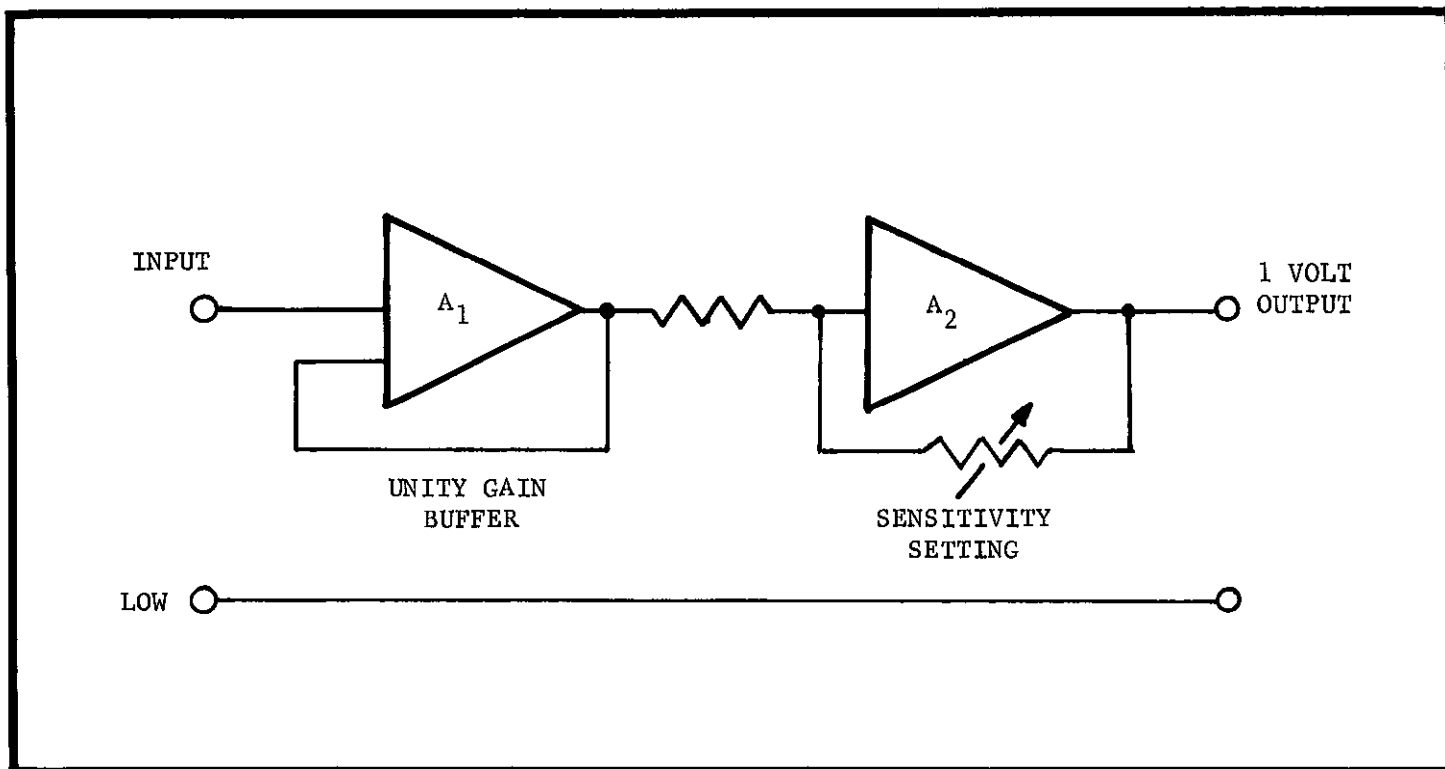

FIGURE 24. Simplified Diagram of Amplifier Section.
a. **Input Amplifier.** This amplifier A_1 is shown in simplified form in Figure 24. (Refer to schematic 25764E). The input signal applied between HI and LO (J120) is amplified by the input MOS-FET amplifier composed of transistors Q101A and Q101B. Transistors Q102A and Q102B are used for over-voltage protection (base-emitter connected). Integrated circuit QA101 provides high gain (approx. 100,000) for the electrometer amplifier section. Potentiometer R123 is an internal zero adjustment used for calibration purposes. Potentiometer R119 is a front panel ZERO control with adjustment capability of approximately 3 mV. Transistors Q105 and Q106 are complementary output stages which provide a maximum of ± 200 volts at the "X1" terminal (J118). The electrometer amplifier is connected in a unity-gain configuration. Input resistance between HI and LO is greater than 2×10^{14} ohms in "VOLTS" function.
e. **Voltage Sensitivity.** This amplifier A_2 is shown in Figure 24. (Refer to schematic 25776D). The second stage variable-gain amplifier is composed of a FET stage (Q301A, Q301B) and an integrated circuit QA301. Gain is determined by resistors RN301 (A to F) where: